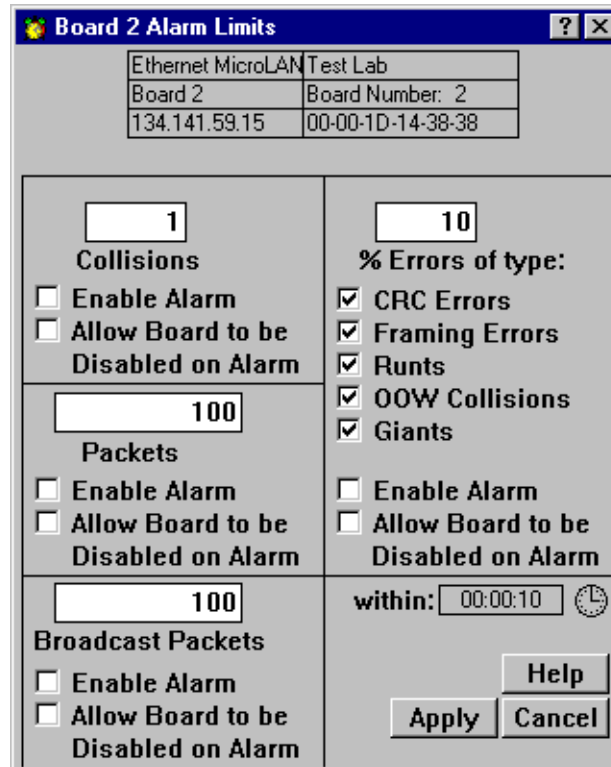

Figure 5-7. The Board Alarm Limits Window
3. Select **Alarm Limits**. The Board Alarm Limits window, Figure 5-7, will appear.